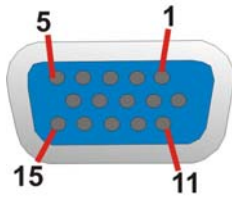

Figure 4-26: VGA Connector
- CN Pinouts:** See **Figure 4-26** and **Table 4-27**